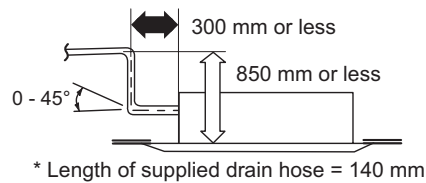

Fig. 2-48
- In cases where it is necessary to raise the height of the drain piping, the drain piping can be raised to a maximum height of 850 mm above the bottom surface of the ceiling. Under no conditions attempt to raise it higher than 850 mm above the bottom surface of the ceiling. Doing so will result in water leakage. (Fig. 2-48)